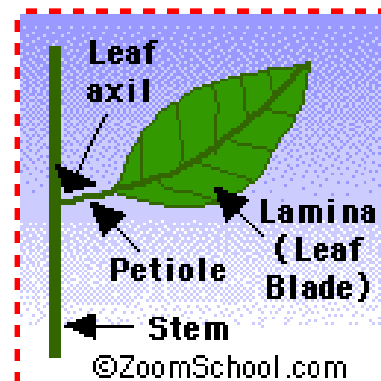

Figure 3.
**AXIL** of a plant is the angle between the upper side of the stem and a leaf, branch, or petiole. In flowering plants, the bud develops in the axil of a leaf. *Refer to Figure 3.*
**FLOWER** is the reproductive unit of angiosperms. Flowers usually have carpels, petals, sepals, and stamens. Some flowers (called perfect flowers) have both male and female reproductive organs; some flowers (called imperfect flowers) have only male reproductive organs (stamens) or only female reproductive organs (ovary, style, and stigma). Some plants have both male and female flowers, while other has males on one plant and females on another. Complete flowers have a stamen, a pistil, petals, and sepals. Incomplete flowers lack one of these parts. *Refer to Figure 3.*
**LAMINA** is the blade of a leaf. *Refer to Figure 3*